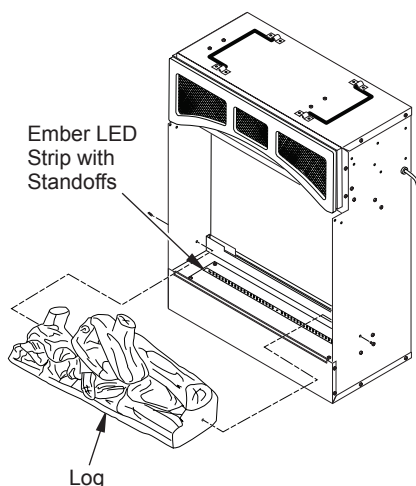

Figure 10 - Removing Log and Ember LED
2. Locate ember LED strip (see Figure 10). Disconnect wire (right side).
2. Remove screws from each side of log that secures log to base and remove log (see Figure 10, page 8).